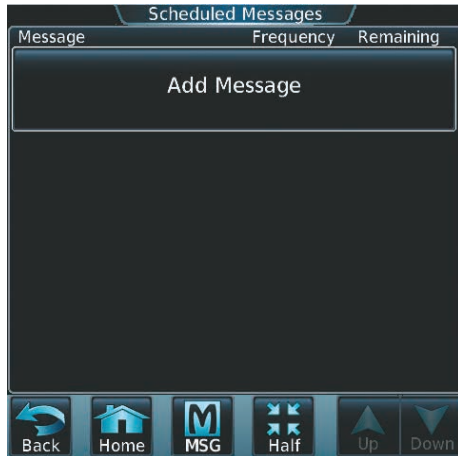

Figure 8-91 Touch Add Message
- 2) Touch the **Add Message** Button as shown in Figure 8-91.